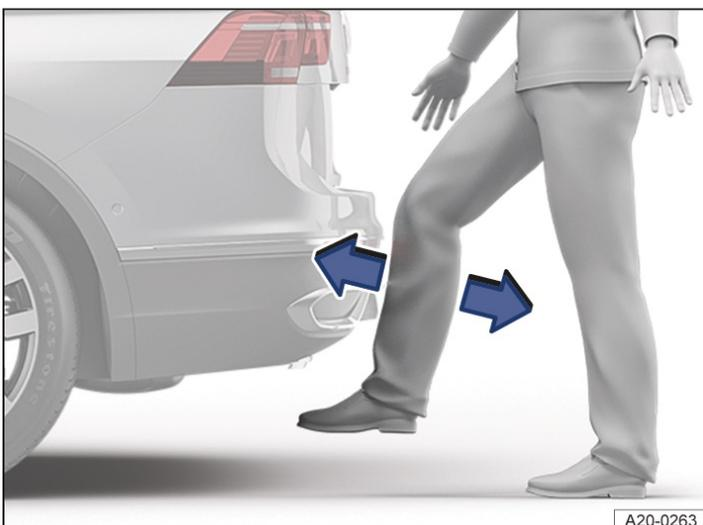

Fig. 1 Illustration of the boot lid with sensor-controlled opening (Easy Open).
2. Move your foot and shin quickly towards the bumper → *Fig. 1*.